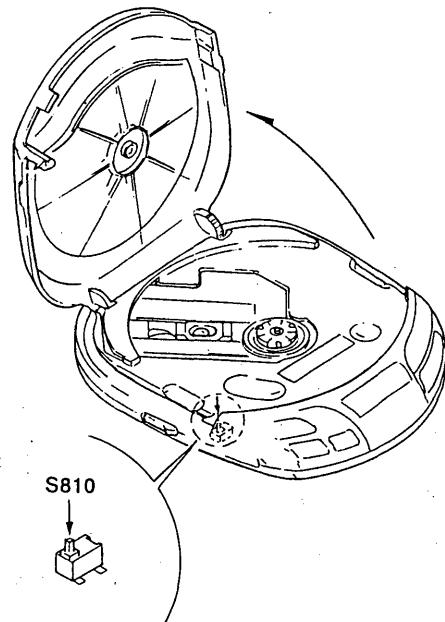

Fig. 1 Method to push the S810
2. Push the S810 as shown in Fig. 1.